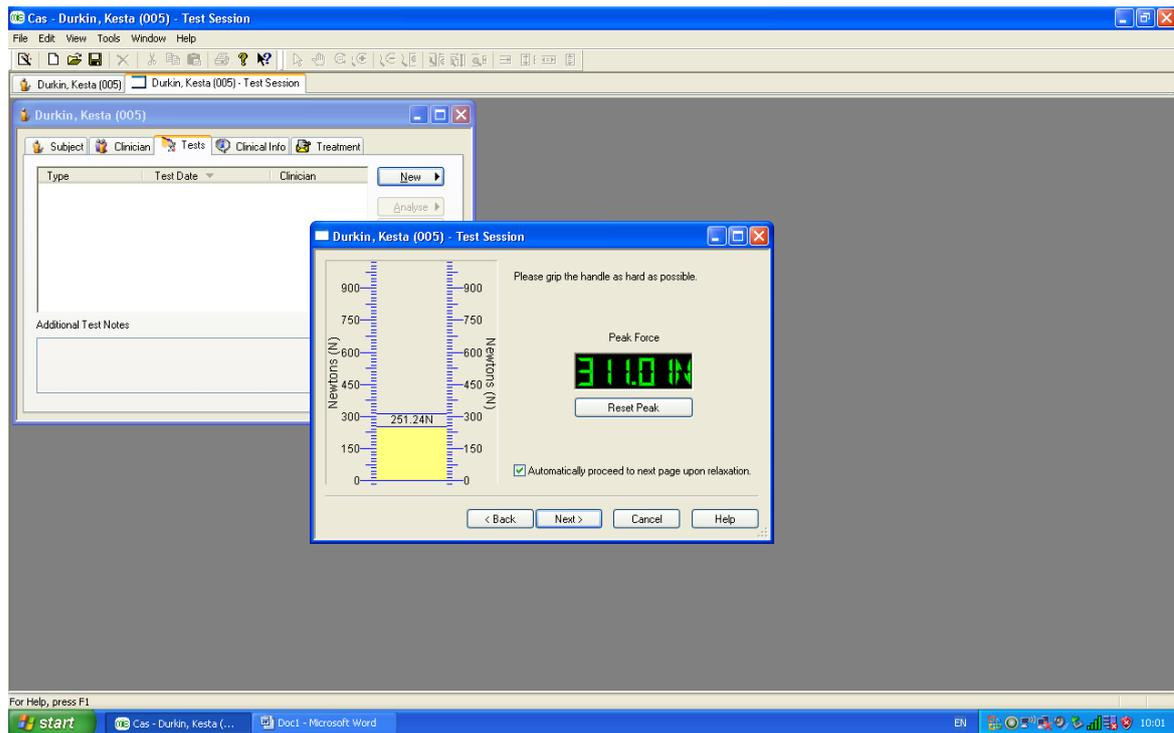

Figure 7.
9. Ask them to grip as hard as possible then release their grip and the screen shown below (figure 7) will be displayed.